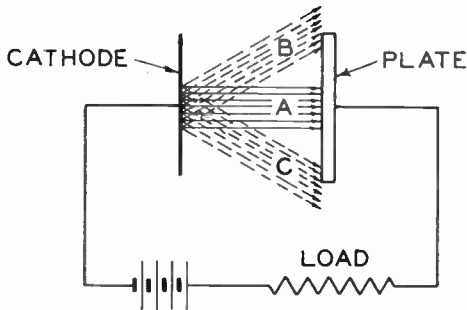

FIG. 1
When the heater is fed from a source of alternating voltage, the alternating current that flows through the heater may set up an alternating magnetic field of appreciable magnitude. Because this magnetic field accelerates the electrons in a direction at right angles to that of the electrostatic fields, electrode currents are modulated. Fig. 1 shows one manner in which an alternating magnetic field may introduce hum in the plate circuit. Consider the usual direction of electron flow as that shown by A. Then, during one half of the heater-current cycle, the beam is deflected upward (B); if part of the beam leaves the plate, the plate current is reduced. Similarly, during the second half of the cycle, the beam is deflected downward (C), to reduce the plate current again. This change of beam position gives rise to a hum current having a large double-frequency component. This hum current flows through the load, and causes hum voltage on the grid of the succeeding tube.